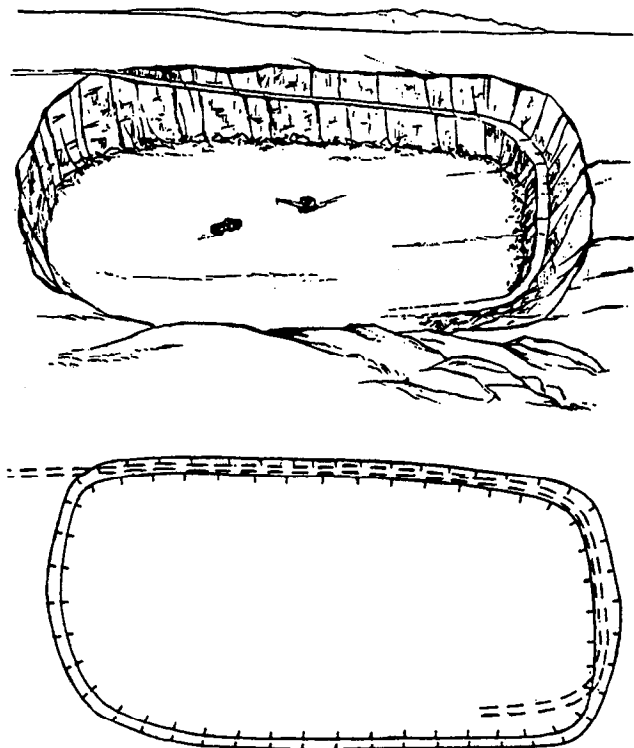

Figure 5-17.—Depression.
9. DEPRESSION. A depression is a low point or a sinkhole, surrounded on all sides by higher ground (fig. 5-17).